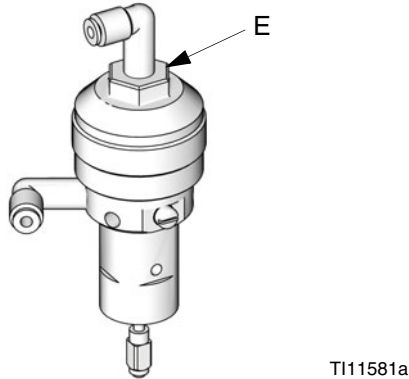

FIG. 4. Dispense Valve Adjustment
To open dispense or purge valves, turn hex nut (E) *counterclockwise*. To close, turn *clockwise*. FIG. 4.